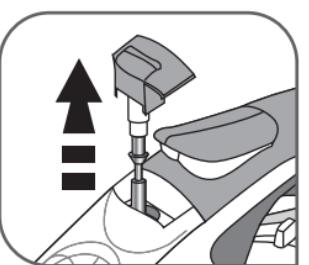

Fig.18
- To remove the anti-scale rod, set the thermostat at MAX, press the valve extraction button and pull gently upwards – fig.18.